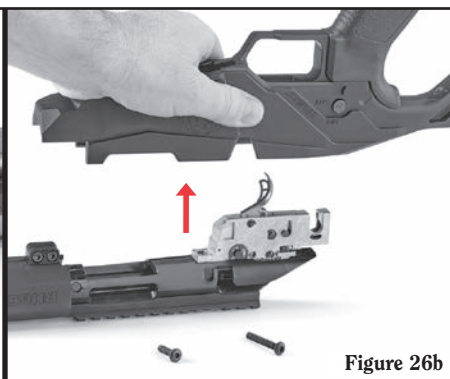

Figure 26b
- d. Lift the barreled-action out of the stock. (See Figure 26b.) **If the safety selector switch drops out of the stock, refer to “Reversing the Safety Selector Switch,” p. 31, for instructions on how to reinstall it.**